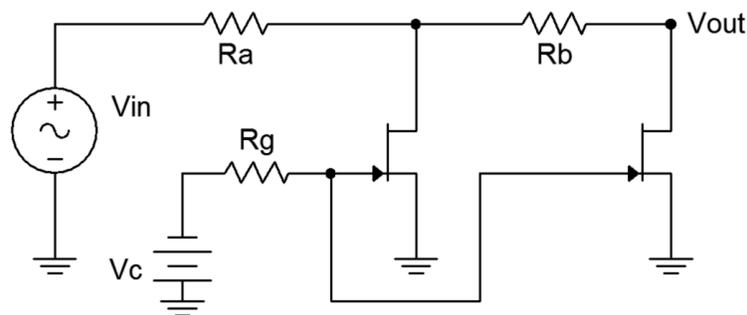

Figure 2
5. Build the circuit of Figure 2 with  $R_a = R_b = 4.7 \text{ k}\Omega$  and  $R_g = 10 \text{ k}\Omega$ . Set  $V_{in}$  to 100 mV peak at 1 kHz. Set the control voltage,  $V_C$ , to 0 VDC. Measure the signal at  $V_{out}$  using the oscilloscope and record the value in Table 2.